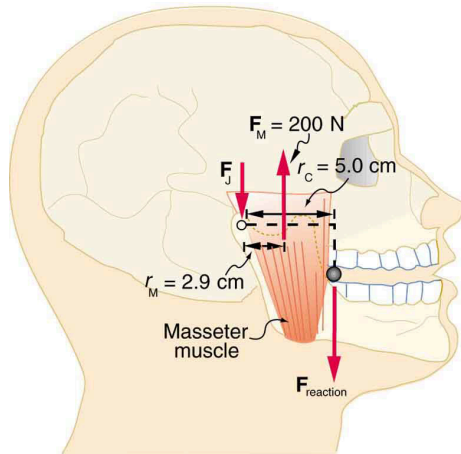

Figure 9.43 A person clenching a bullet between his teeth.
35. Unlike most of the other muscles in our bodies, the masseter muscle in the jaw, as illustrated in Figure 9.43, is attached relatively far from the joint, enabling large forces to be exerted by the back teeth. (a) Using the information in the figure, calculate the force exerted by the lower teeth on the bullet. (b) Calculate the force on the joint.